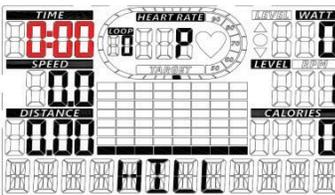

Fig. 20
- (b) To set time, press UP (▲)/DOWN (▼) buttons (Fig. 20). When finish, press “SET” button to confirm and then press “START” to begin the workout.